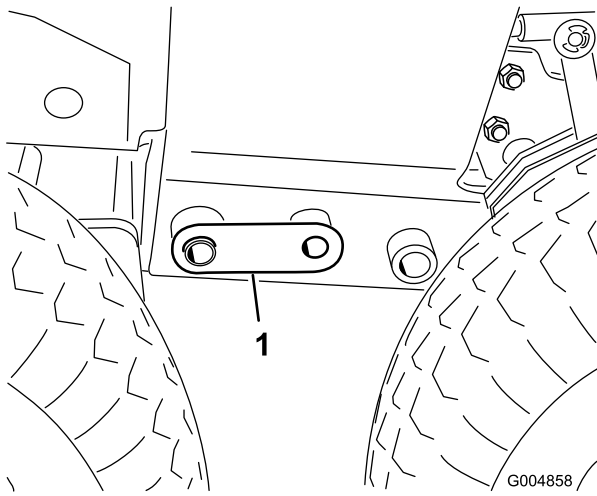

Figure 113
22. Adjust the floor jack to line up the 1.00 inch holes in the frame and install a coupler pin on each side (Figure 113).